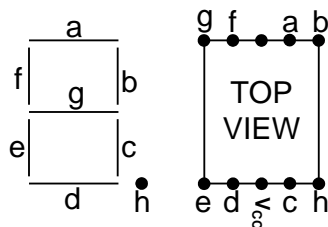

Figure 7-5. Pin connections of the 7-segment display.
2. Construct a BCD counter on the protoboard. You will use one 74LS190, one 74LS47, and one 7-segment display. Apply a CLK signal of 1Hz from the function generator and observe the output. The **(CE)'** input of 74LS190 must be **low** and the outputs Q_0, Q_1, Q_2, Q_3 must be connected to the A, B, C, D inputs of 74LS47 respectively. Figure 7-5 shows the pin connections of the seven segment display.